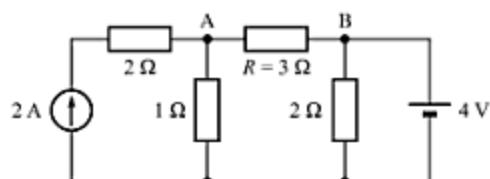

Fig. 4.36
- Determine the current through $R = 3\text{ }\Omega$ resistor (from A to B) in the circuit shown in Fig. 4.36, using superposition theorem.